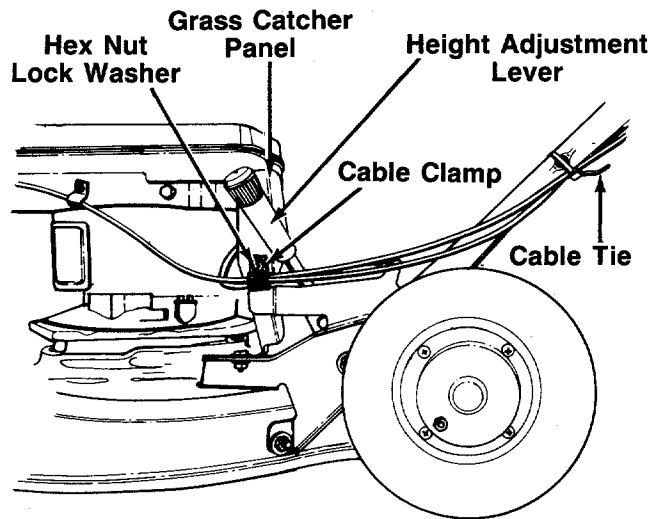

FIGURE 7.
2. Remove the top hex lock nut and flat washer on the side of the grass catcher panel. Attach the cable clamp as shown in figure 7. Secure with flat washer and hex lock nut.